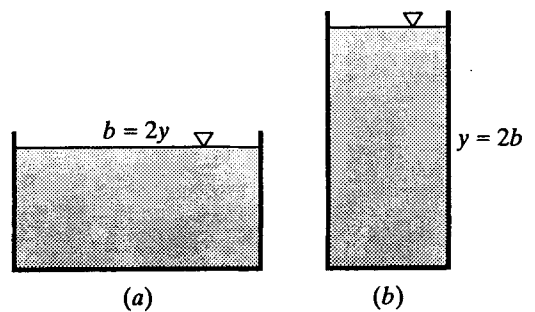

Figure X10.6.2
10.6.3 A rectangular flume of planed timber ( $n = 0.012$ ) slopes 1 m per km. (a) Compute the rate of discharge if the width is 2 m and the depth of water is 1 m (Fig. X10.6.2). (b) What would be the rate of discharge if the width were 1 m and the depth of water 2 m? (c) Which of the two forms would have the greater capacity and which would require less lumber?